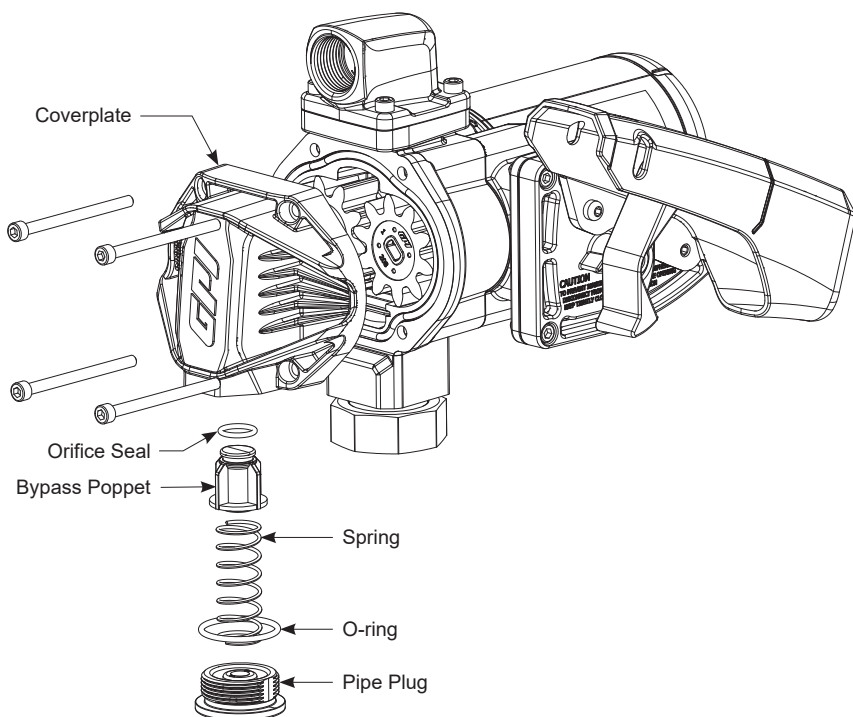

Figure 3
3. With a 10mm Hex wrench remove the pipe plug from the coverplate, and remove the bypass poppet spring, O-ring, bypass poppet and orifice seal (see Figure 3).